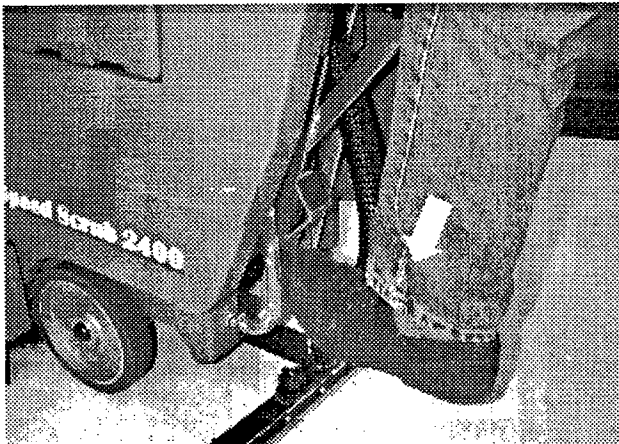

FIG. 7
7. Raise brush head: To raise brush head, step down firmly on the bottom brush lift foot pedal until brush locks into the raised position. (Figure 7)